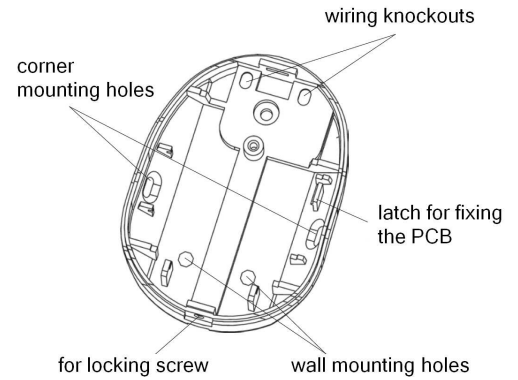

Figure 2: Rear Housing of the Detector
1. Using a screwdriver remove the locking screw in the lower part of the rear housing (see Figure 2) and separate the front housing.
3. Drill out the required mount and wiring holes in the rear housing (see Figure 2).